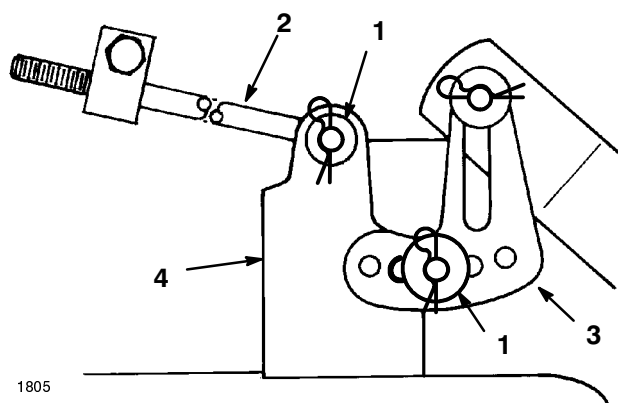

Figure 42
10. Remove the hair pin cotter and washer from the end of the long rod (Fig. 42). Slide the rod out of the mower mount.
11. Remove the hair pin cotter and washer at the mower leveling bracket (Fig. 42). Slide the bracket off the mounting pin. Re-install the washer and hairpin cotter for storage.